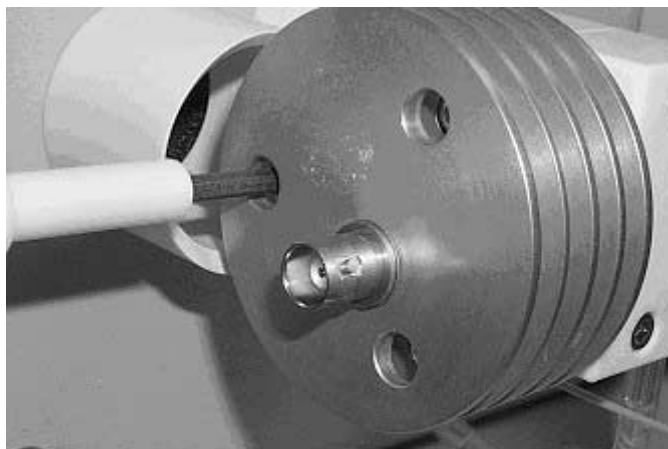

Figure 7
7. Remove the Transducer. See Fig. 7